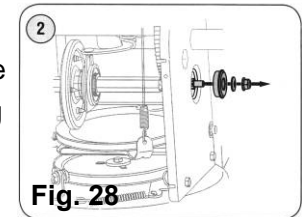

Fig. 28
3. Carefully remove the hex nut and washer which secures. See Figure 28. The hex shaft to the snow thrower frame and lightly tap the shaft's end to dislodge the ball bearing from the right side of the frame.
4. Pull the hex shaft out by force, remove the hex shaft and transition shaft assembly off. See Figure 28.